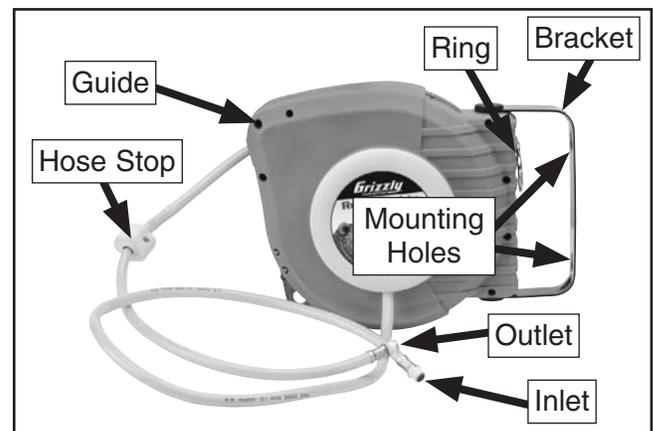

Figure 1. Main components.
Mark the location of the mounting holes on the bracket base (see **Figure 1**) in the chosen location, then secure with ¼" grade 8 fasteners.
— Use the mounting ring shown in **Figure 1** to mount the hose reel to a ceiling-mounted hook.
2. Apply Teflon pipe tape or thread sealant (not included) to the threads of the inlet (see **Figure 1**), then connect it to the air compressor.
5. To adjust the hose stop (see **Figure 1**), pull some hose out until it clicks in place, loosen the screws on the hose stop, slide it close to the hose reel guide, then tighten the screws.